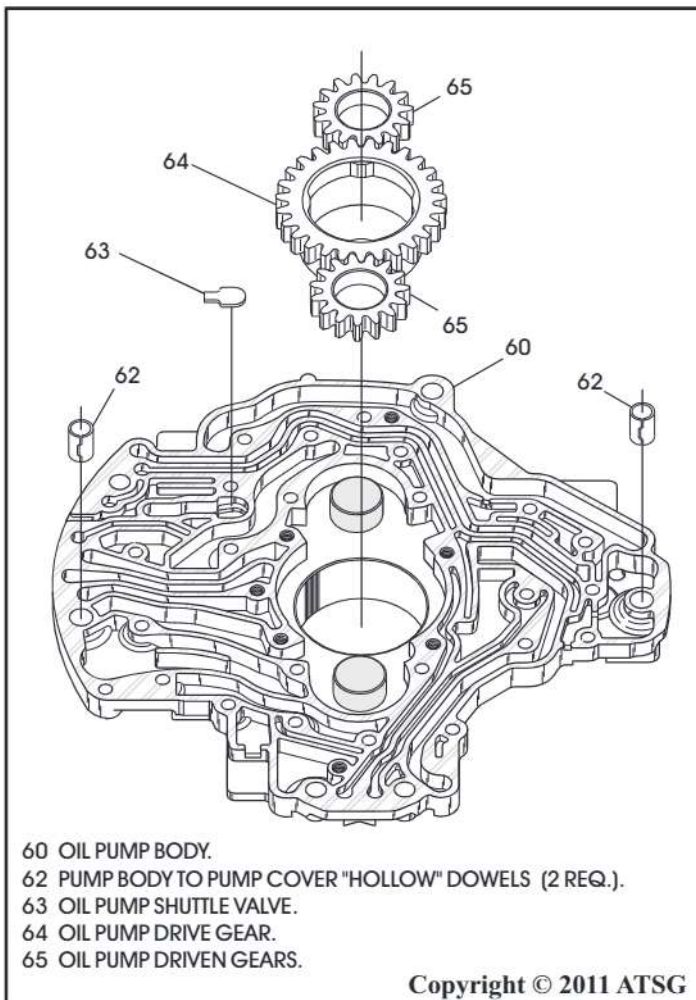

Figure 113
8. Install the alignment dowels into oil pump body, if they were removed, as shown in Figure 113.
9. Dip all 3 of the pump gears into Mopar® +4 fluid and install them in their **original** locations, shown in Figure 113.
10. Install the shuttle valve into the oil pump body in the location shown in Figure 113.